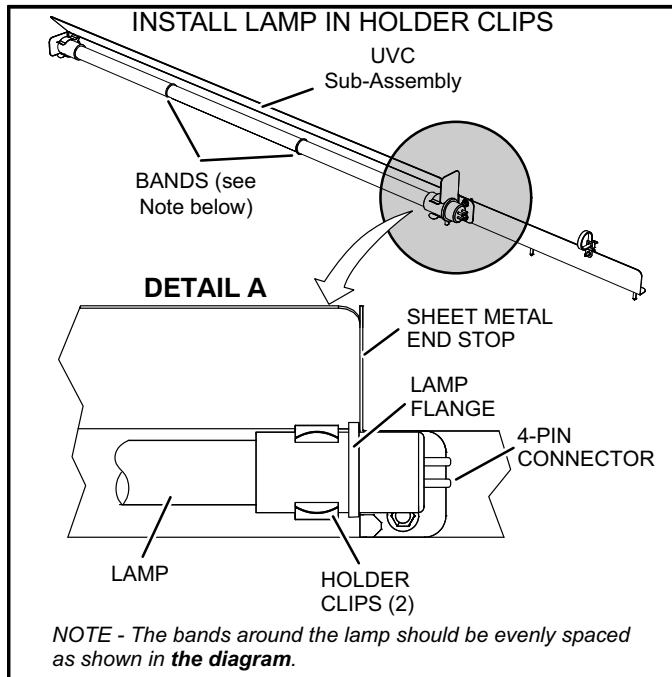

FIGURE 13
- 1- Wear cotton gloves or use a cotton cloth when handling the new lamp. Place the lamp in the holder clips of the UVC sub-assembly (see figure 13). Verify that the lamp flange at the connector end is positioned between the lamp holder clip and the sheet-metal end stop (see detail A in figure 13).
- 5- Remove the (2) mounting screws of the UVC assembly. Carefully slide the complete UVC assembly out through the blower access door.
- 7- Wear cotton gloves or use a cotton cloth when handling the new lamp. Place the new lamp in the holder clips of the UVC assembly. Verify that the lamp flange at the connector end is sandwiched between the lamp holder clip and the sheet-metal end stop (see figure 13).